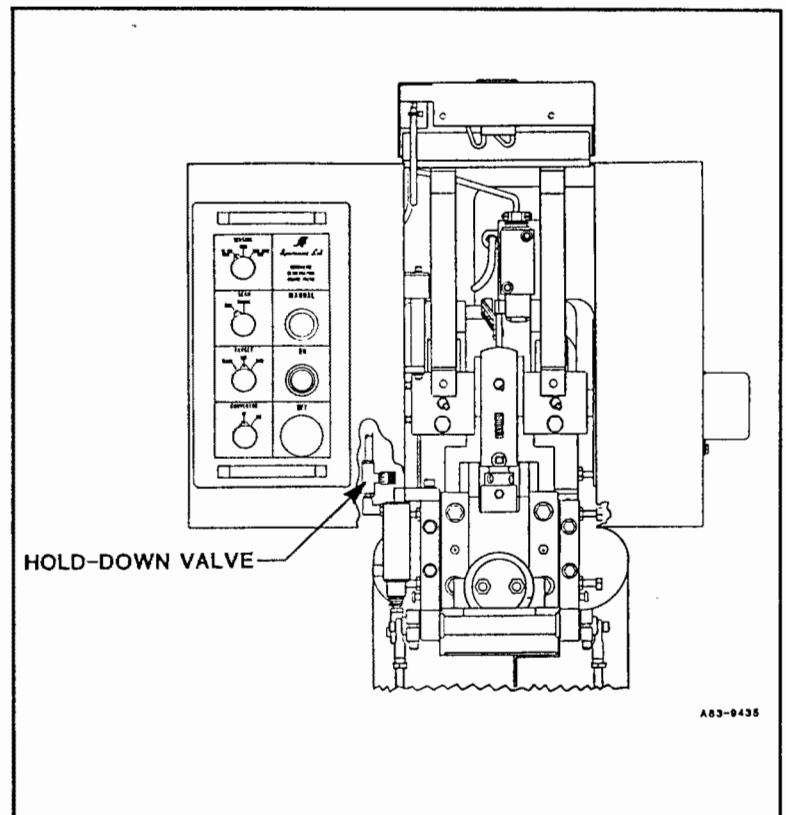

Figure 9.6 A
- c. When the hold-downs press on the sheet of material, try to pull the material out with moderate force. If the material comes out, turn the hold-down valve counterclockwise to increase the hold-down force. If the material does not come out but is damaged by the hold-downs, turn the hold-down valve clockwise to decrease the hold-down pressure. See Figure 9.6 A for location of hold-down valve.
7. Reattach the ram guard (112).